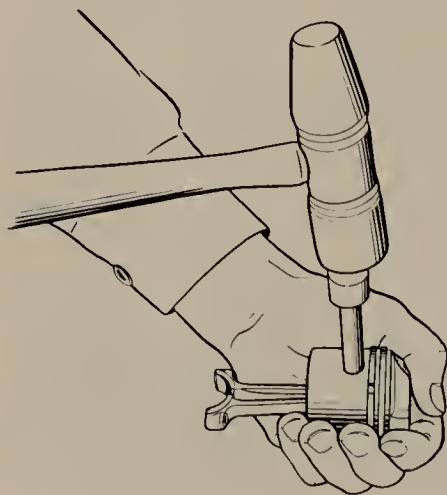

FIGURE 16.20 Removing the piston pin with a special punch. (*Lawn Boy Division, Outboard Marine Corporation.*)
16.4 Servicing Piston and Rings. Rods are attached to pistons in several ways. In one, the piston pin is a press fit in the rod and must be driven out with a special punch. See Fig. 16.20. Another design